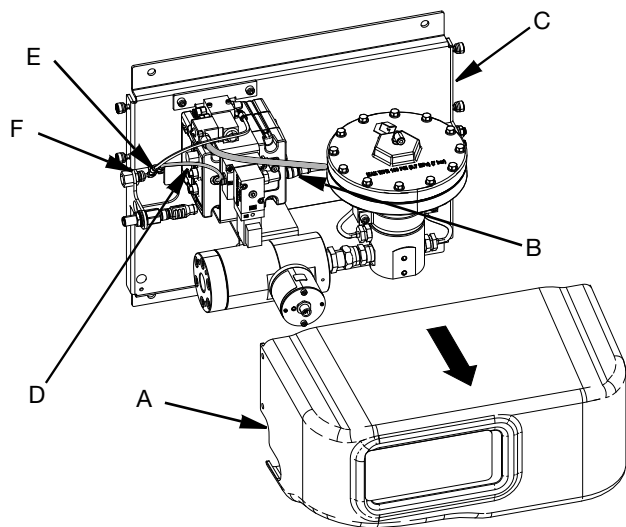

FIG. 8
1. Remove the PCF cover (A).
2. Disconnect the dispense valve air solenoid cable from FCM port 1(B). Secure the loose end of the cable to the PCF fluid mounting plate (C).
3. Disconnect the regulator air line (D) from the incoming air wye fitting (E).
4. Disconnect the incoming air wye fitting (D) from the incoming air elbow fitting (F). Secure the incoming air wye fitting to the PCF fluid mounting plate (C). See FIG. 8 page 11.